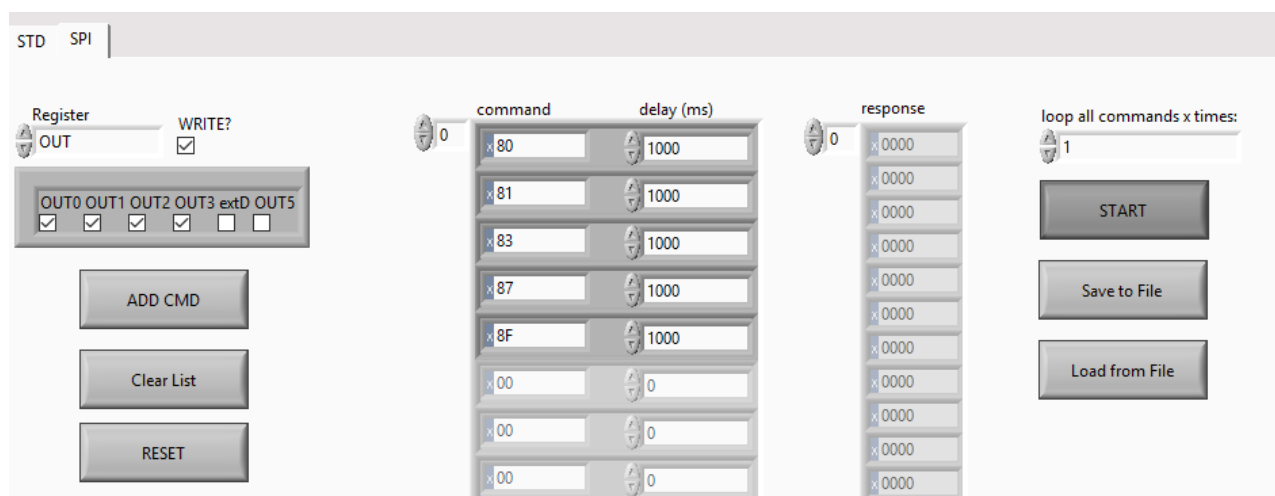

Figure 29 - Start command sequence
- Switch back to SPI view and click the START-button (See Figure 29)